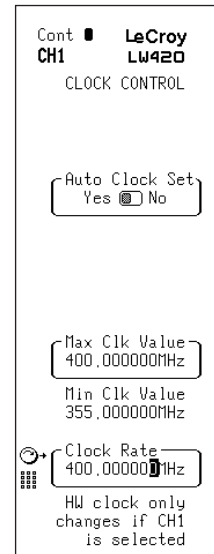

Figure 13.3 The Clock Menu
1. Access the **Clock Control** menu from the front panel by pressing the red “**2ND**” button then the **CLOCK** button (the alternate function of the **TIME** button). The **CLOCK** menu is shown in figure 13.3.